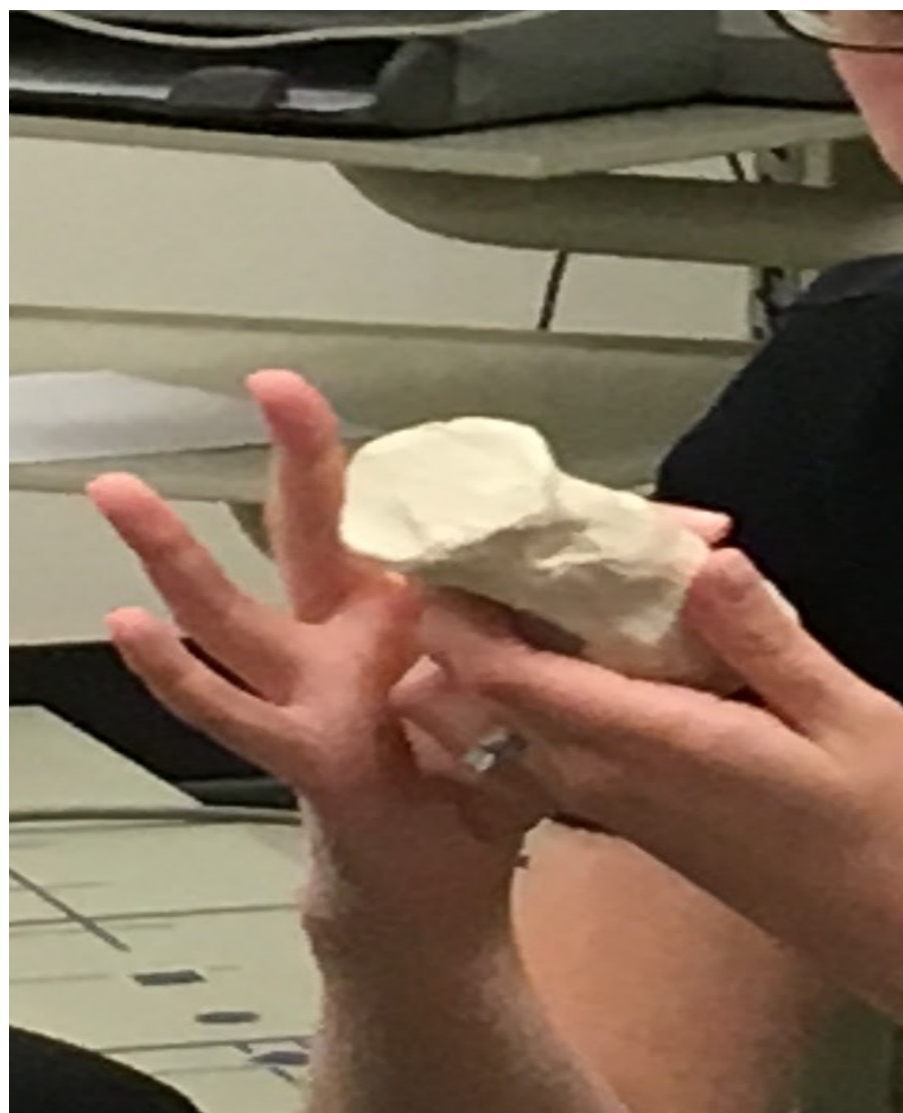
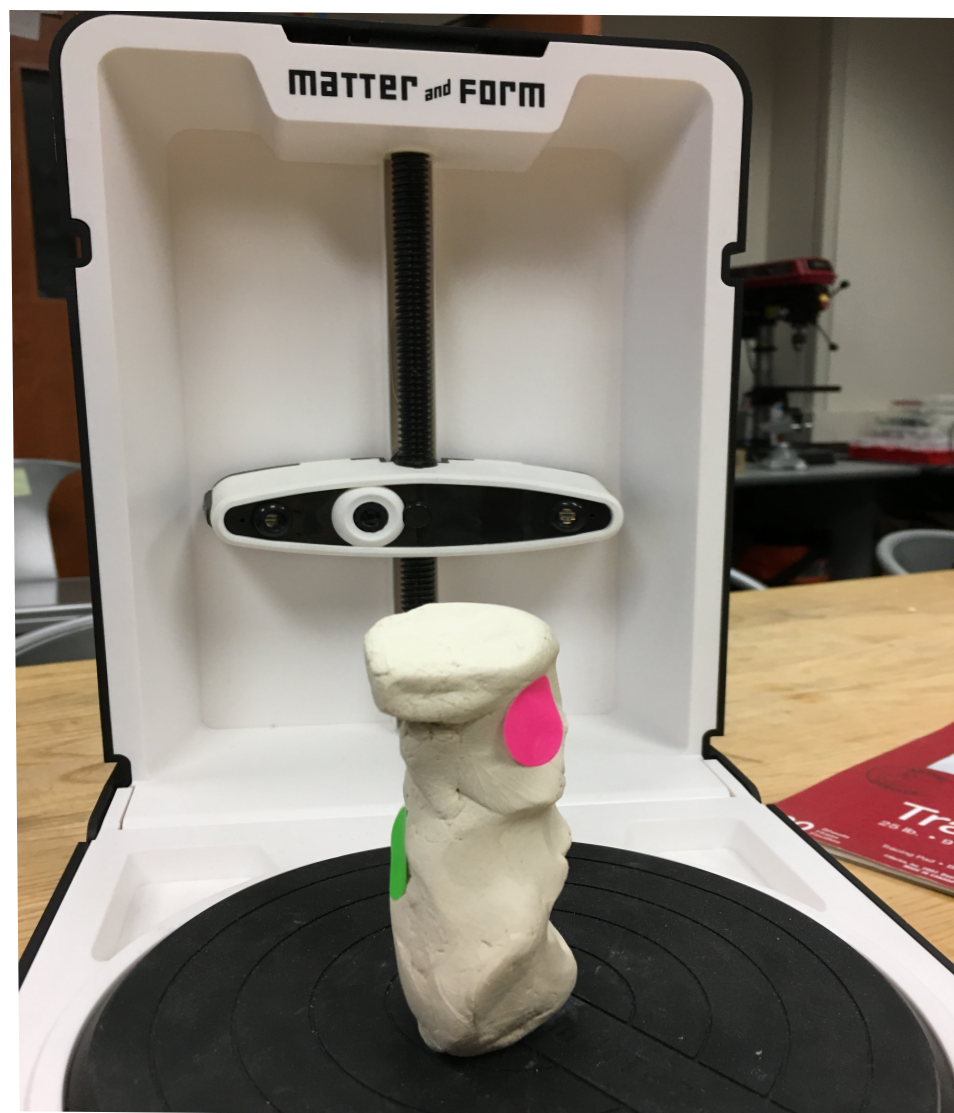

Figure 3. Therapists create clay models of the grips.
Figure 4. 3D scanning a clay grip.
1. The therapist creates a clay prototype of the base of the grip, based on the patient's hand shape (Figure 3). The therapist puts colored stickers on the clay prototype to denote where on the grip the hole will need to be. This augmented clay prototype will then be 3D scanned (Figure 4).